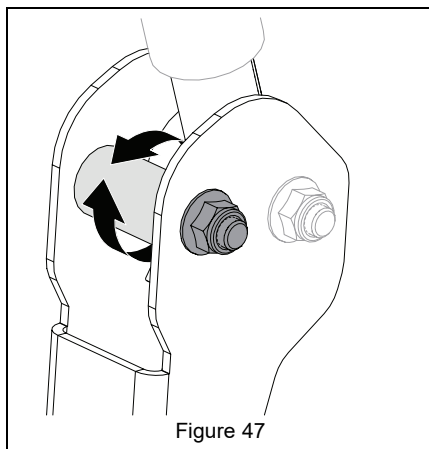

Figure 47
6. Adjust eccentric spacer so levers are at the same height and have a 1.3 cm – 2.5 cm (1/2" – 1") gap between lever ends. See Figure 47.